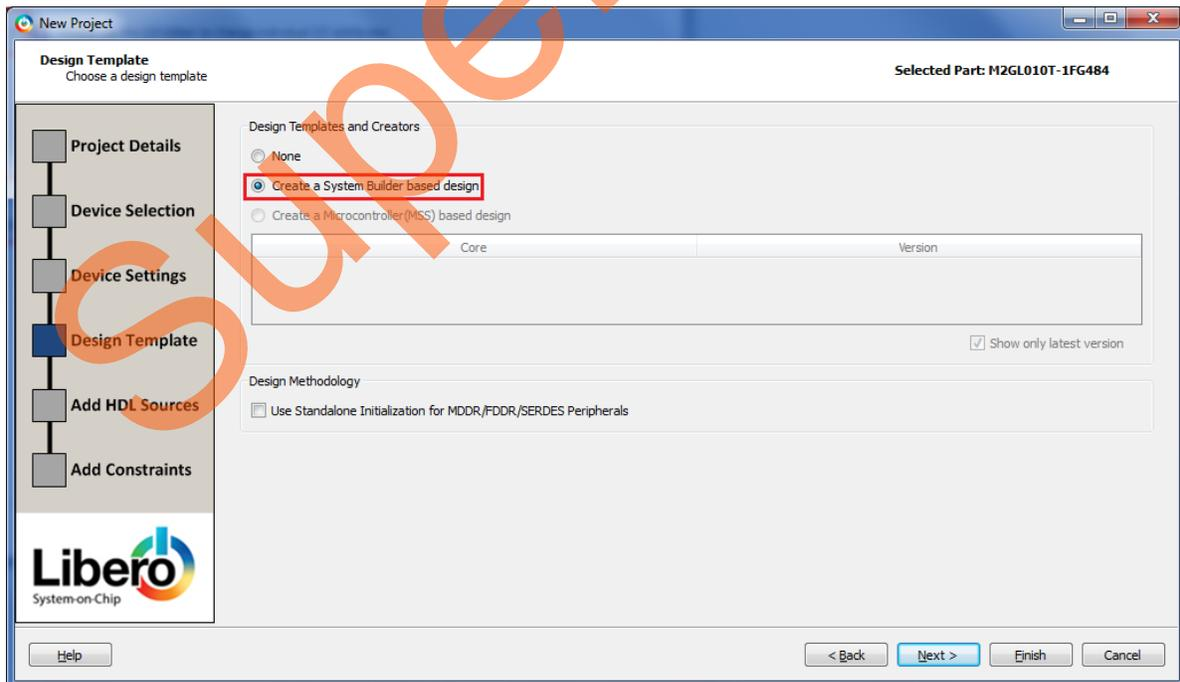

Figure 6 • New Project - Device Settings
6. Select **Create a System Builder based design** under **Design Templates and Creators** as shown in Figure 6.